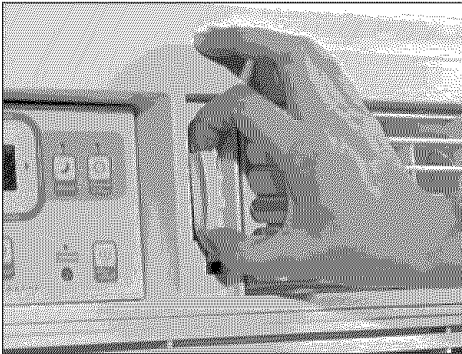

Figure 1 (OFF)
1. Recirculate inside air — Vent Closed (see Fig. 1)